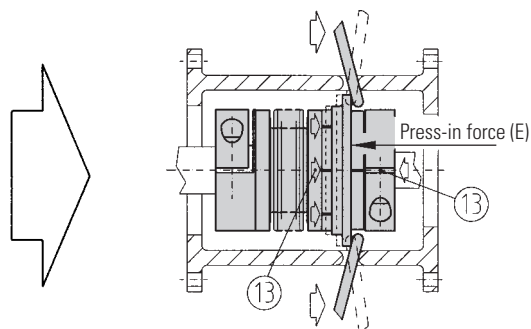

Figure 3
**Re-engagement of the coupling is not automatic and must be performed manually (Figure 3).**